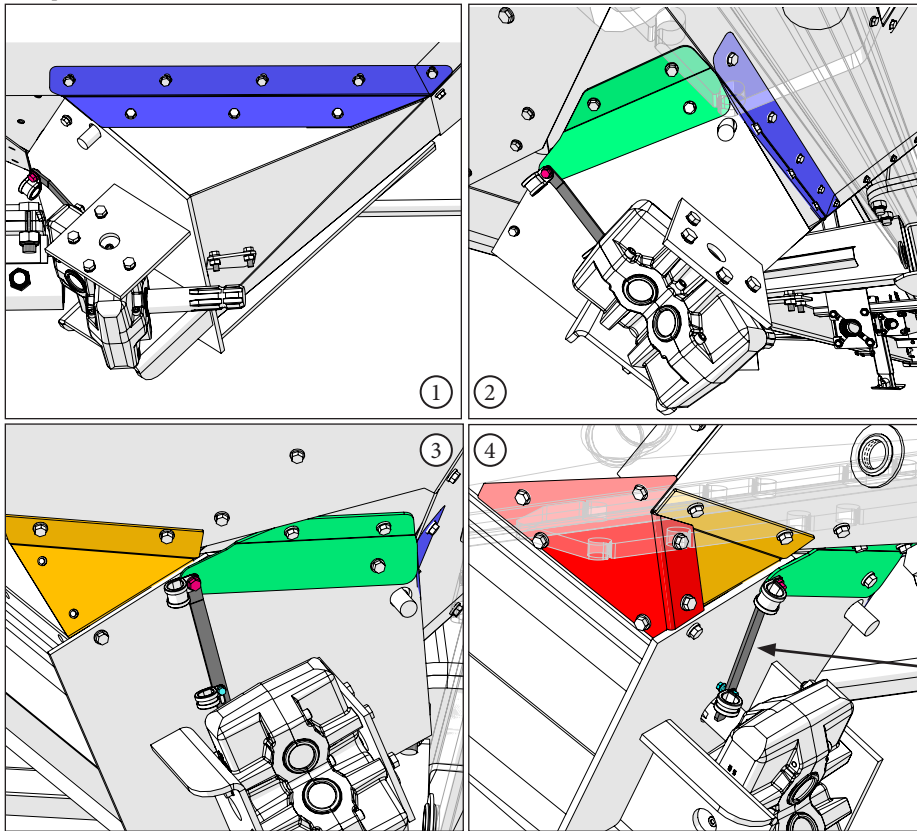

Fig. 24
- Attach the (4) gearbox plates according to Fig. 24.
- Use (19) M10 x 25 hex bolts and (19) M10 hex nuts.